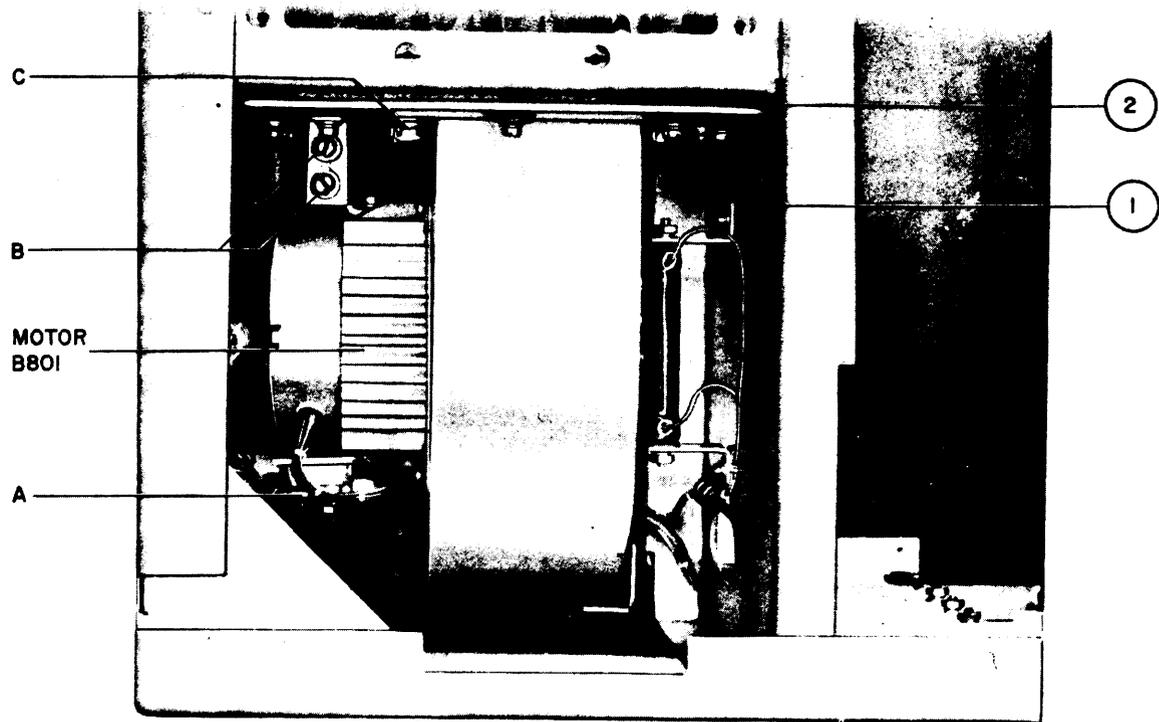

Figure 6-22. Radio Frequency Amplifier AM-2121/WRT-2, Blower Replacement
4. REPLACEMENT OF BLOWER ASSEMBLY.—To remove the blower assembly in the r-f amplifier chassis, refer to figure 6-22 and proceed as follows:
Step 2. Remove the cover plate from the upper lefthand compartment (immediately above the blower assembly in figure 6-22).
Step 3. Refer to figure 6-22(A) and disconnect the leads at terminal board TB802. Identify each lead as it is disconnected.
Step 5. Remove screws C (four) and remove blower B101. Do not disturb screws (1) or the gasket (2).
(1) GENERAL.—The first step in disassembly of the r-f tuner is to remove it from the permanently mounted shockmount supports so that the case may be removed. It is mandatory that the inside of the r-f tuner be kept clean and absolutely free from any moisture. In order to perform maintenance properly the unit must be taken to a clean, enclosed work area. If the motor and control circuitry is operative, depress DOWN switch S809 on Radio Frequency Amplifier AM-2121/WRT-2 until POSITION INDICATOR M806 indicates zero. If these circuits are inoperative, the position of the shorting disc in the tuner assembly will have to be set manually as directed in the appropriate paragraph. Remove the grounding strap and all interconnection cabling.